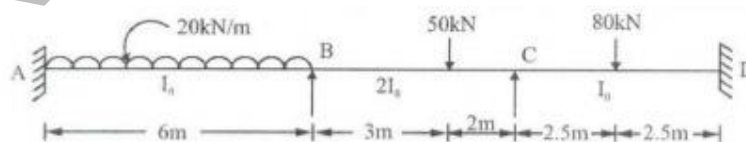

Figure -1
5. Analyze the continuous beam shown in Figure -1 by SDM (14M)